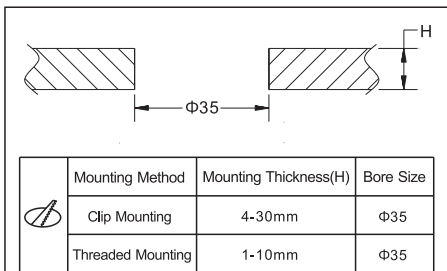

Figure 1
1. Fixture Installation Thickness & Cut-out Dimensions. (Figure 1)